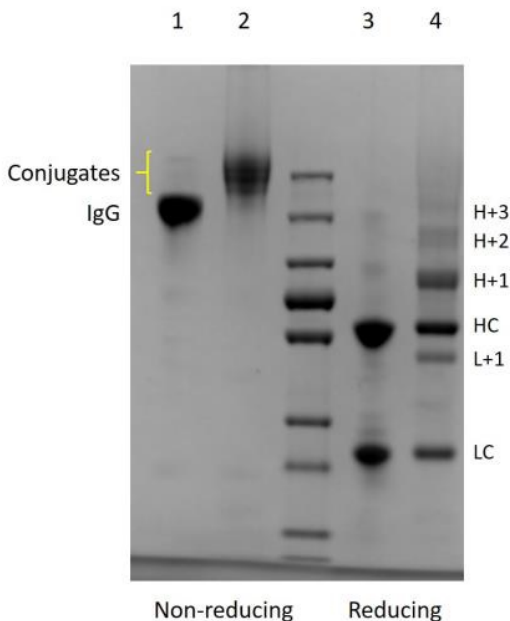

Fig 2.
- 12.3** An example is shown in Fig. 2 with a polyclonal antibody. The gel has been deliberately overloaded ($\sim 4 \mu\text{g}$ of antibody conjugate and IgG) to illustrate the band patterns more clearly, especially the quantitatively minor bands in the reducing half of the gel (Fig. 2, Tracks 3 and 4). i.e. those with two or more oligos attached.